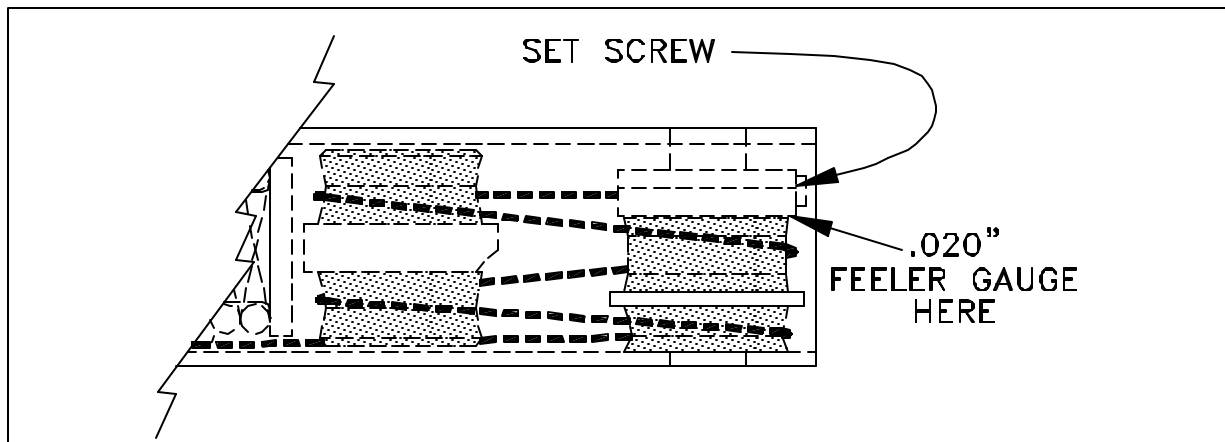

Figure 19
12. With the AutoStop still on its side, be sure that the pulleys, cable anchor, and pulley divider are all together and pressed down to the side of the tube. Place a 20 thousandths inch (.020") feeler gauge between the cable anchor and wide pulley and tighten the set screw in the end of the cable anchor. (Figure 19) **NOTE:** *Be sure to keep the 5/8 rod centered in the AutoStop tube while tightening the set screw.*